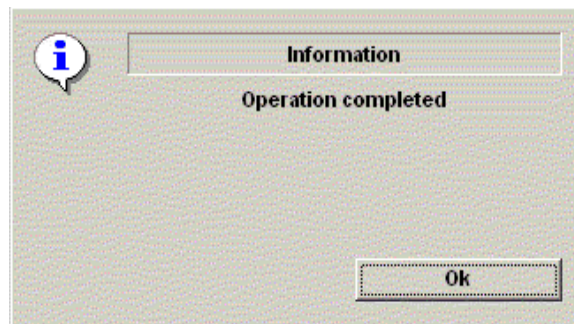

Figure 4-16 Format Successful Pop-up Menu
- 5.) The Ultrasound system displays a pop-up menu, as shown in Figure 4-16. When the formatting has been completed, press **OK** to continue.